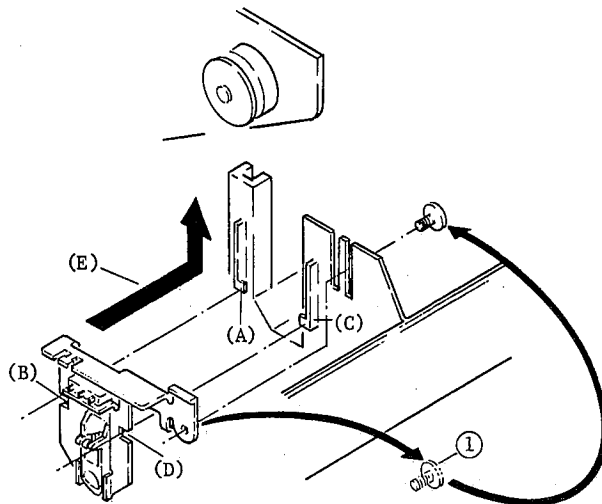

Fig. 9-5
5) Installing the sensor unit (Fig. 9-5)